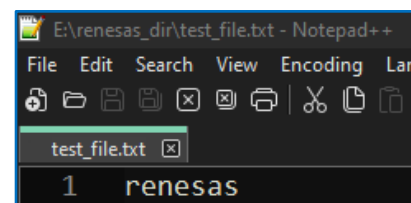

Figure 30 Reading from a file
- Reading from a file is illustrated in *Figure 30 Reading from a file*.